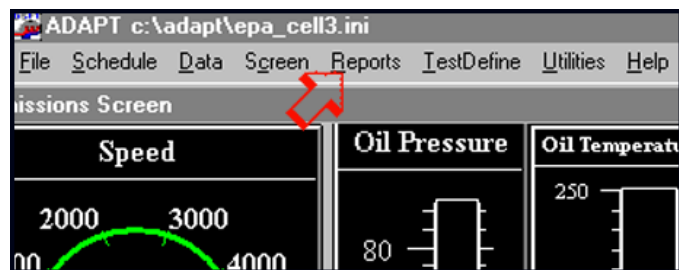

Figure 21
- 128 Click on "Reports" from the menu bar. See the arrow in Figure 21. Select "Log Data Report" from the menu options. The "Data Report Setup" window will appear.